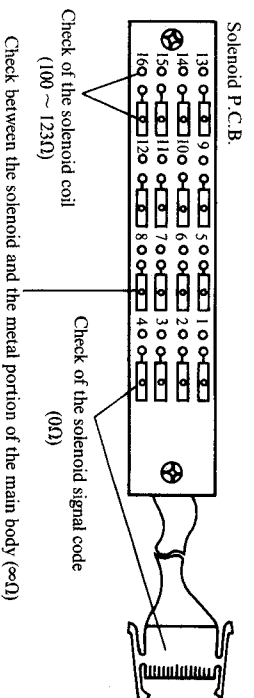

Figure 7-3
- Disconnect the needle selector solenoid unit. Check the resistance values of the places which correspond to the solenoids on the solenoid PC board which were found to be bad. The resistance value of the solenoid coil should be between 100 - 123 Ω , the resistance value of the solenoid signal cord should be 0, and the resistance value of the metal portion of the main body and the solenoid should be $\infty\Omega$ (refer to figure 7-3).